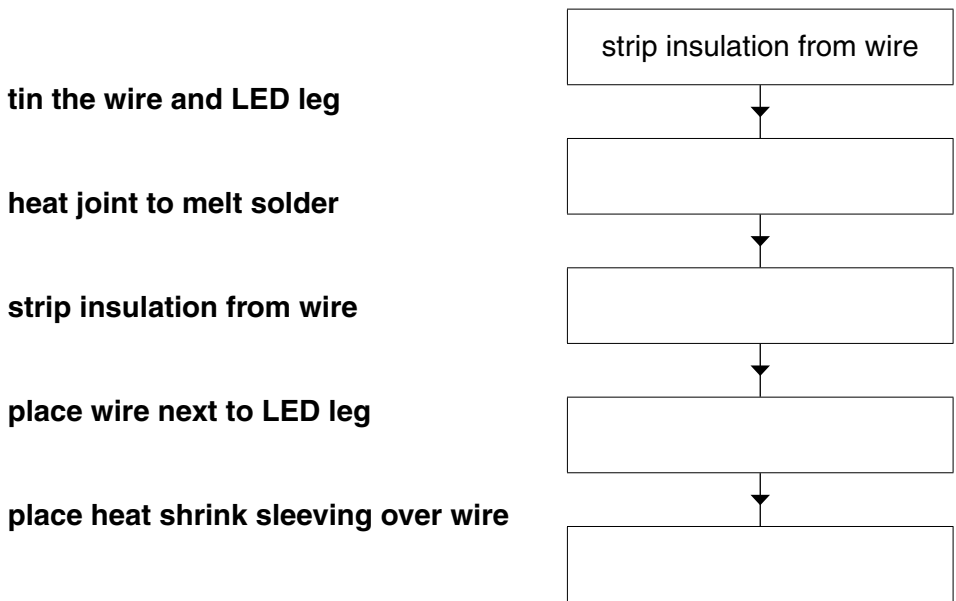

**Fig. 3**
- (ii) The heat shrinking can be carried out with the cooler part of a soldering iron tip as shown in Fig. 3.